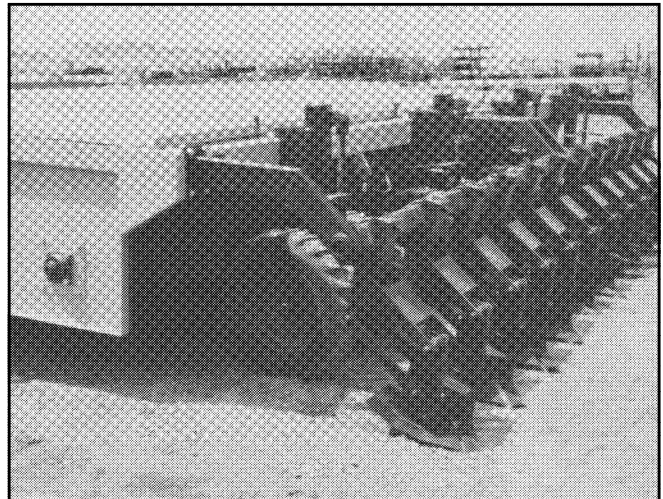

Figure 25 Scalper Storage
12. Lower the scalpers to the ground for storage (Figure 25).